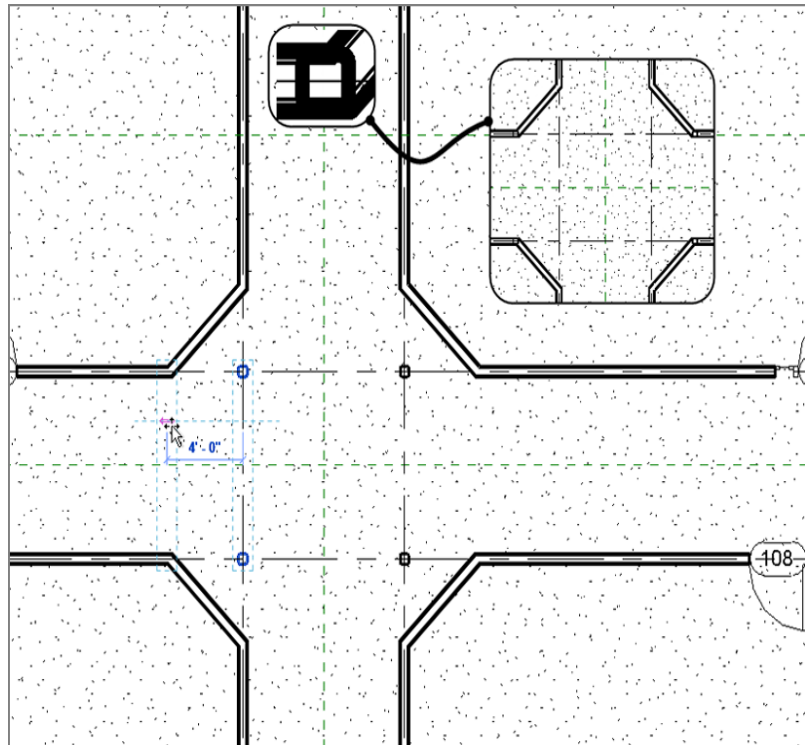

FIGURE 8.31: Moving the columns to the left 4'-0" (1200mm)
2. Select the two columns at the left of the corridor, as shown in Figure 8.31.
3. Move the columns 4'-0" (1200mm) to the left (see Figure 8.31).